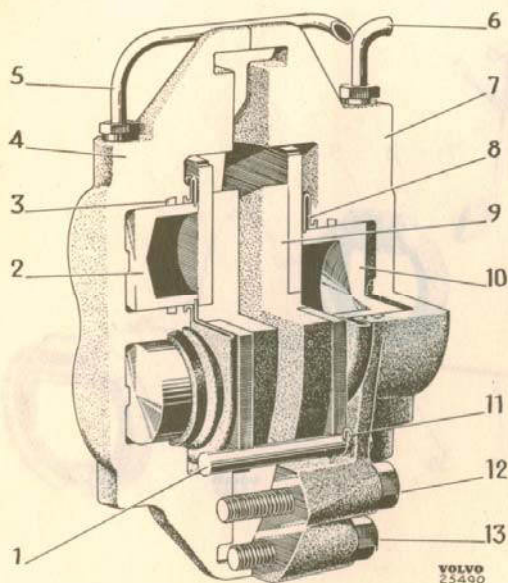

Fig. 7-3. Caliper
(9, Fig. 7-3) are provided with cast-in facings. When braking, one of the facings is pressed against the inner side of the brake disk by a large hydraulic plunger (10) and the other against the outer side by two smaller plungers (2). When braking ceases, the facings are moved back just enough so that they are always at a certain minimum distance from the brake disk. This means that the front wheel brake units are self-adjusting.